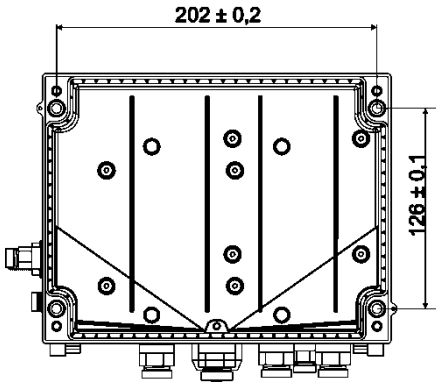

Fig. 8
1. Bore four holes in the positions marked on the wall (see dimensions in Fig. 8).